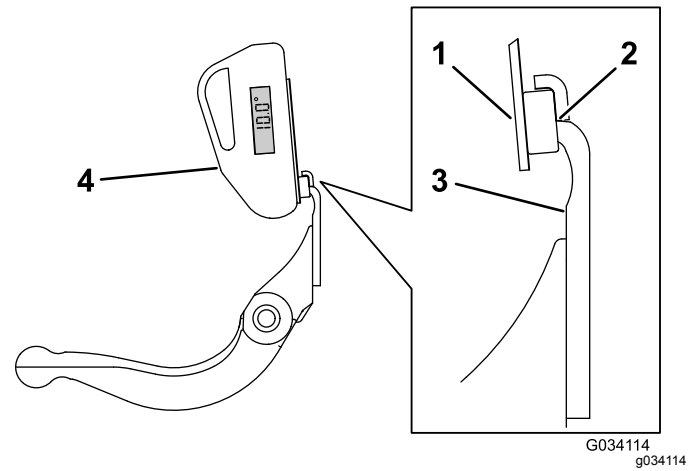

Figure 26
3. Place the angle-indicator mount on the edge of the bedknife so that the edge of the magnet mates with the edge of the bedknife (Figure 26).
4. Place the angle indicator on the mount as shown in Figure 26.